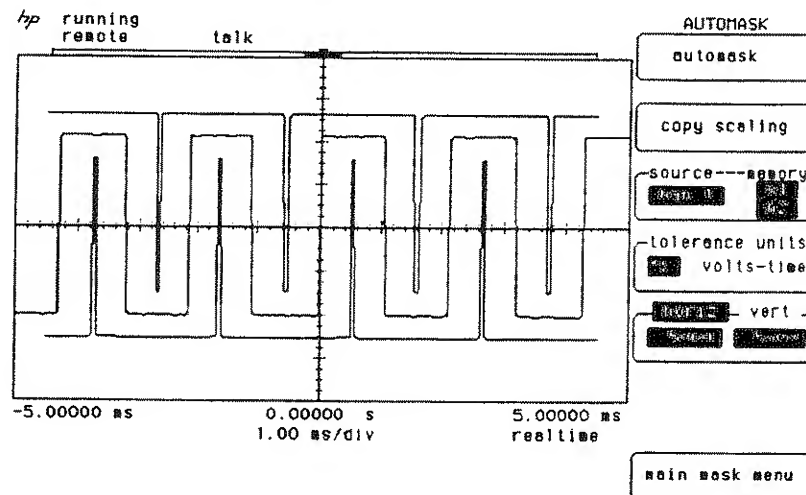

Figure 10-4. Automask Example
- Press **automask** key. Verify "upper stored in mem 1, lower stored in mem 2" is displayed. The upper limit mask, lower limit mask, and reference waveform are all displayed as in figure 10-4.